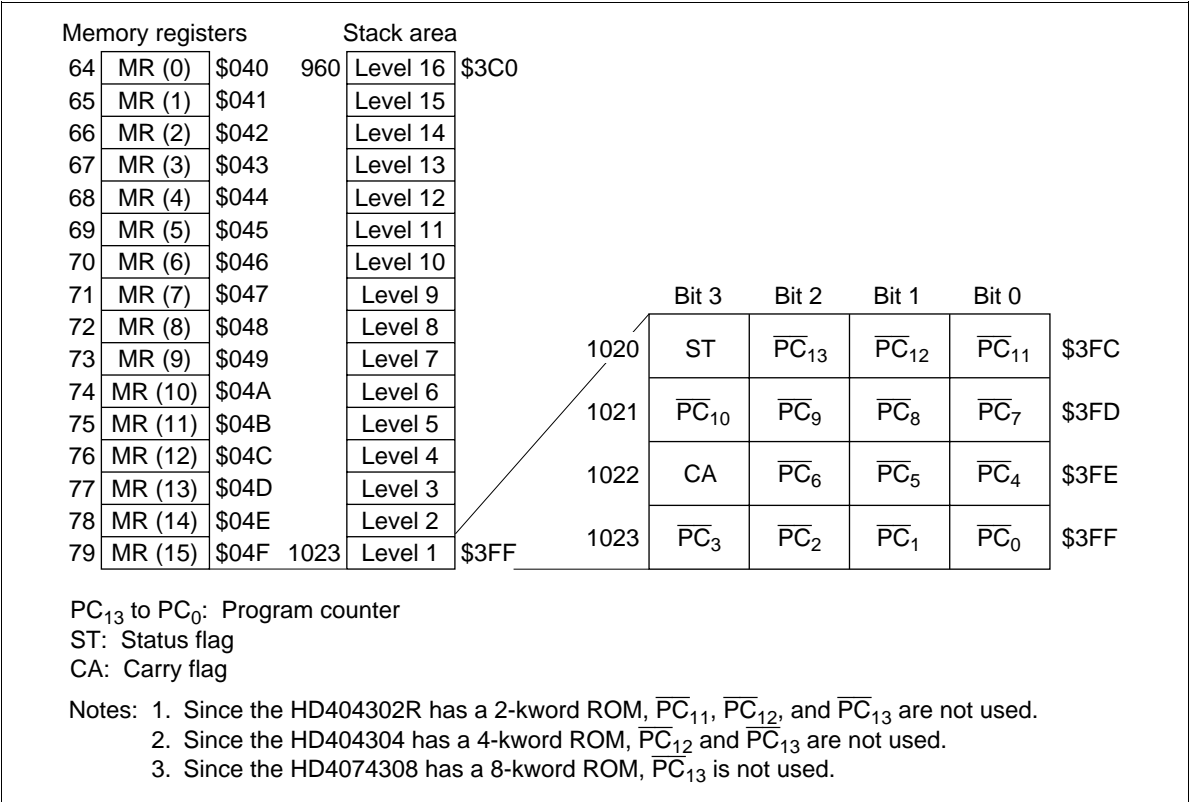

Figure 4 Configuration of Memory Registers, Stack Area, amd Stack Position
Data Area (\$040 to \$09F): The 16 digits of \$040 through \$04F are called memory registers (MR) and are accessible by the LAMR and XMRA instructions (figure 4).
Stack Area (\$3C0 to \$3FF): Locations \$3C0 through \$3FF are reserved for the stack area to save the contents of the program counter (PC), status flag (ST), and carry flag (CA) when subroutine calls (CAL and CALL instructions) and interrupts are processed. This area can be used as a 16-level nesting stack in which one level requires 4 digits. Figure 4 shows the save condition. The program counter is restored by the RTN and RTNI instructions. The status and carry flags are restored only by the RTNI instruction. This area, when not used as a stack, is available as a data area.